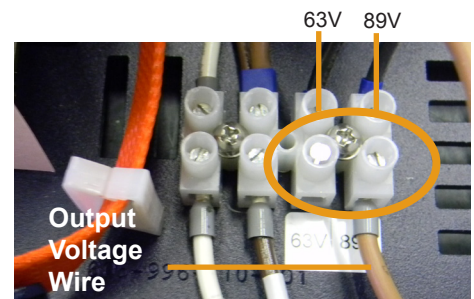

Fig. 2-14, Voltage Wire Position
2. Loosen the terminal screw and move the Output Voltage Wire to the desired output voltage position on the Output Voltage Terminal (see Fig. 2-14).